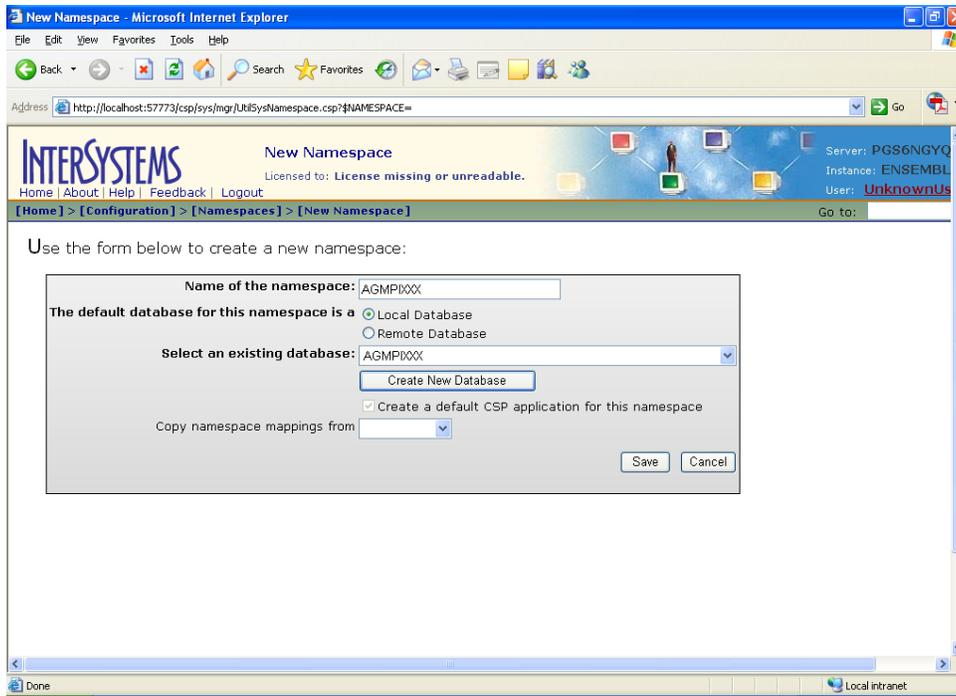

Figure 4-10: AGMPIxxx database
14. Click **Finish** to create the namespace database and open the **New Namespace** page, as shown in Figure 4-10.